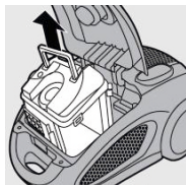

Figure 24
3. Remove the dust container from the vacuum cleaner by the handle (Figure 24, 25).